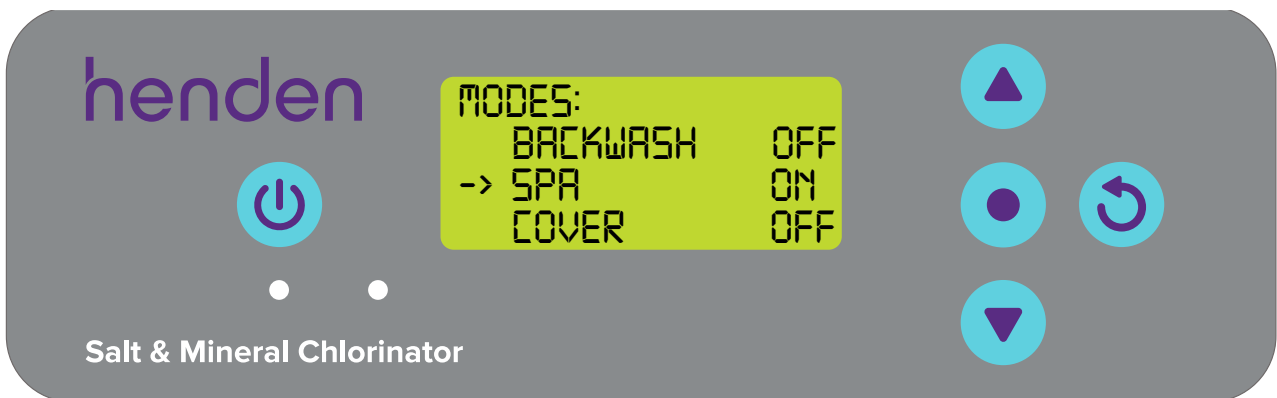

Figure 9.67
- Press the  **menu/setting cancel (go back)** button twice to revert back to the **HOME SCREEN** (refer Figure 9.67).